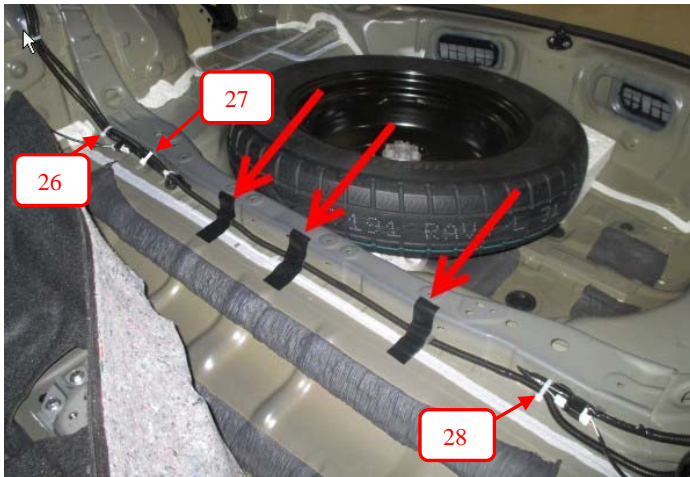

Figure 3-5
- c) Route the t-connection end with Green and Red wire (longer branch) to the passenger side of vehicle, along the forward side of the cross member as shown in Figure 3-5.
- d) Route trailer wire along vehicle wire harness and secure it with 3 wire ties and 3 pieces of PVC Protective Tape (Figure 3-5).
8" WIRE TIE x 3  (Figure 3-5)